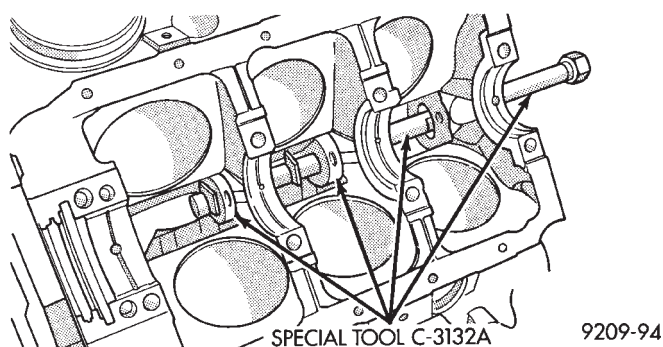

Fig. 35 Camshaft Bearings Removal and Installation with Tool C-3132-A
(1) With engine completely disassembled, drive out rear cam bearing core hole plug.
(2) Install proper size adapters and horseshoe washers (part of Camshaft Bearing Remover/Installer Tool C-3132-A) at back of each bearing shell. Drive out bearing shells (Fig. 35).